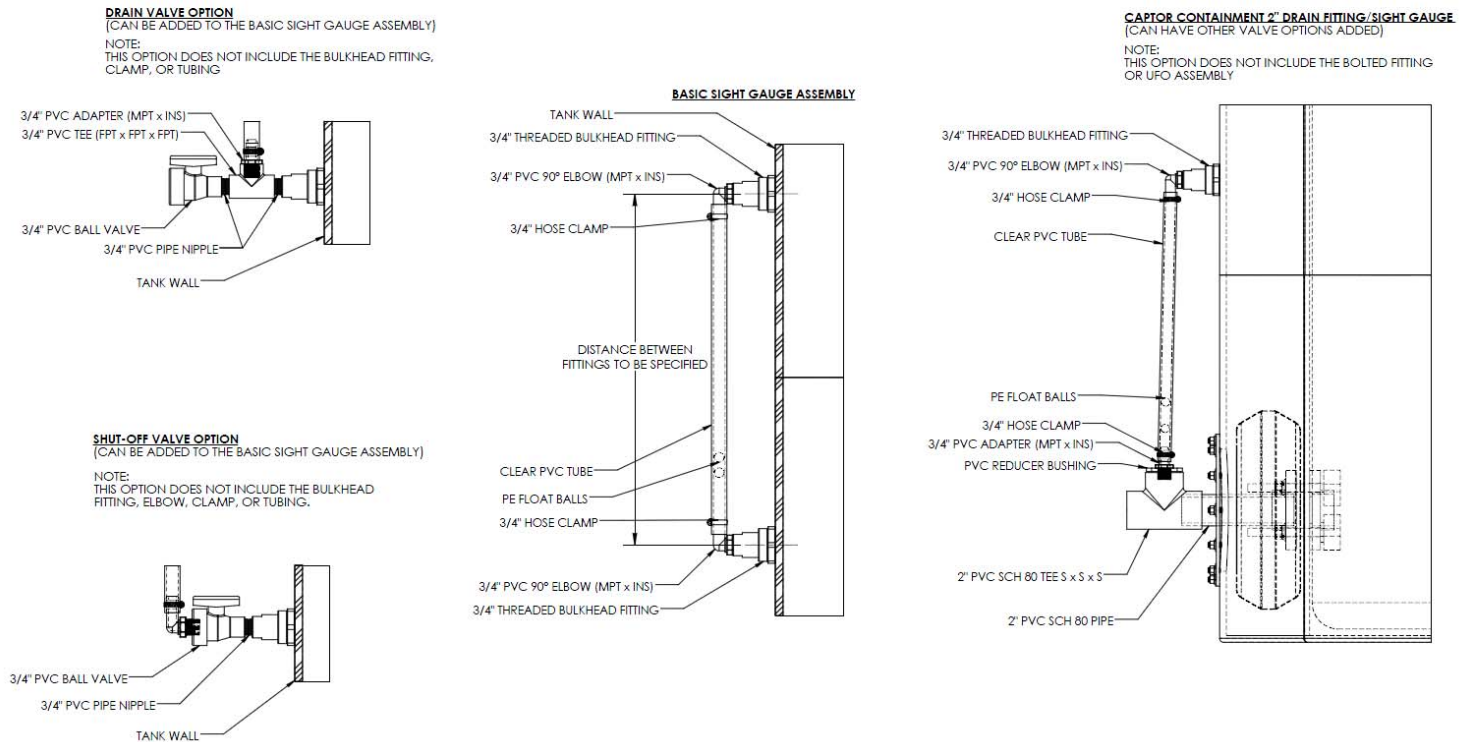

Figure 7.6
7.7.2 Using the assembly drawings shown in Figure 7.6, verify that all parts are present and assemble the unit per the appropriate drawing. Seal all threaded pipe connections with Teflon pipe sealant. Gallonage decals may be purchased as separate items and customer applied to the tank to assist in indication of tank gallonage. NOTE - Gallonage decals are not available for all tank sizes.